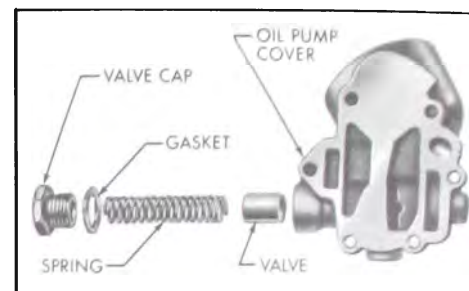

Figure 2-55—Oil Pump Cover Exploded View
2. Remove the oil pressure relief valve cap, spring and valve. See Figure 2-55. Remove the oil filter by-pass valve cap, spring, and valve.
1. Lubricate and install pressure relief valve and spring in bore of oil pump cover. See Figure 2-55. Install cap and gasket.